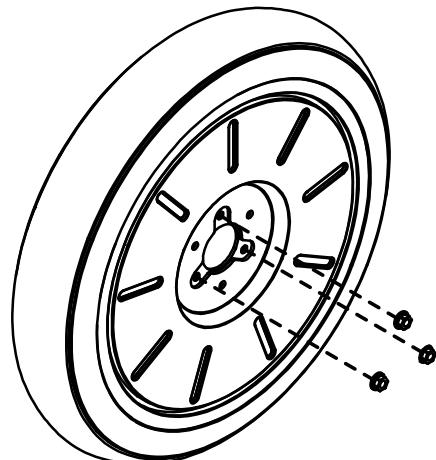

Figure 43: Wheel Nut Locations
- 3. Use a 13 mm socket wrench to remove the three wheel nuts (Figure 43).